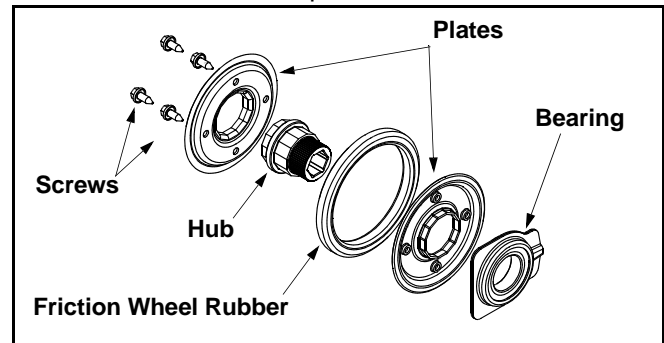

Figure 25
- Remove the four screws from the friction wheel assembly. Remove the friction wheel rubber from between the plates. See Figure 25.